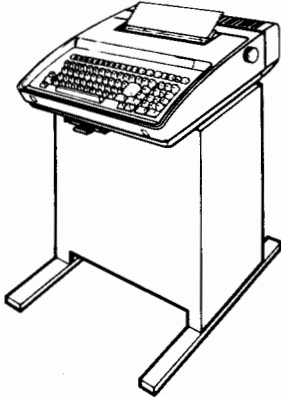

Fig. 1—Pedestal Based 43 Buffered KSR Teleprinter
3.03 The 43 Buffered KSR Teleprinter (Fig. 1) is furnished in a single carton containing the KP set and a pedestal containing the controller, power supply, interconnecting SSI cable and a data set cable.